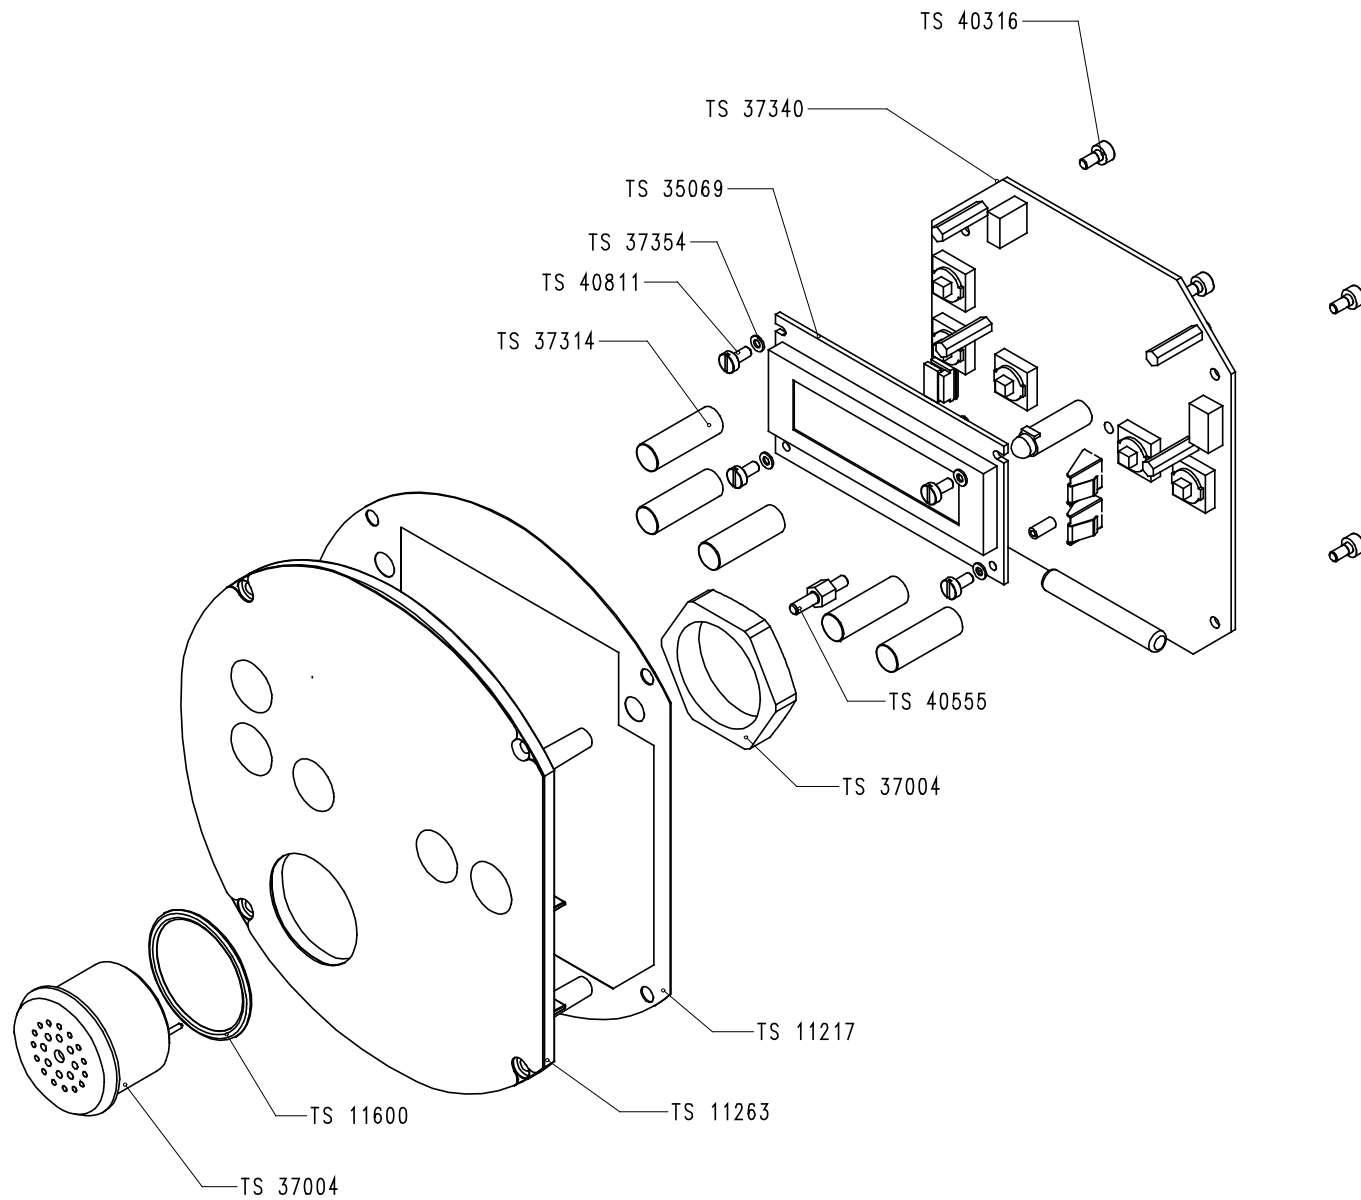

Figure 11-3: display unit assembly TS 10210, details
- Figure 11-3: display unit assembly TS 10210, details